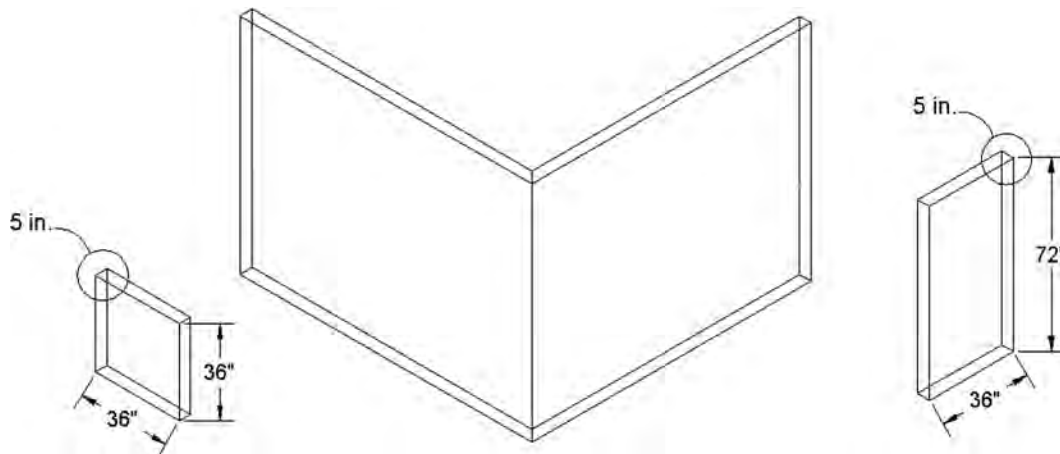

FIGURE 23.13
Step 3. Now create a 36" × 36" window (off to the side) as well as a 36" wide × 72" high door (also off to the side). Both should be 5" thick, as that is the overall thickness of the walls. Rotate 3D the objects into position if needed. The result is shown in Figure 23.13.